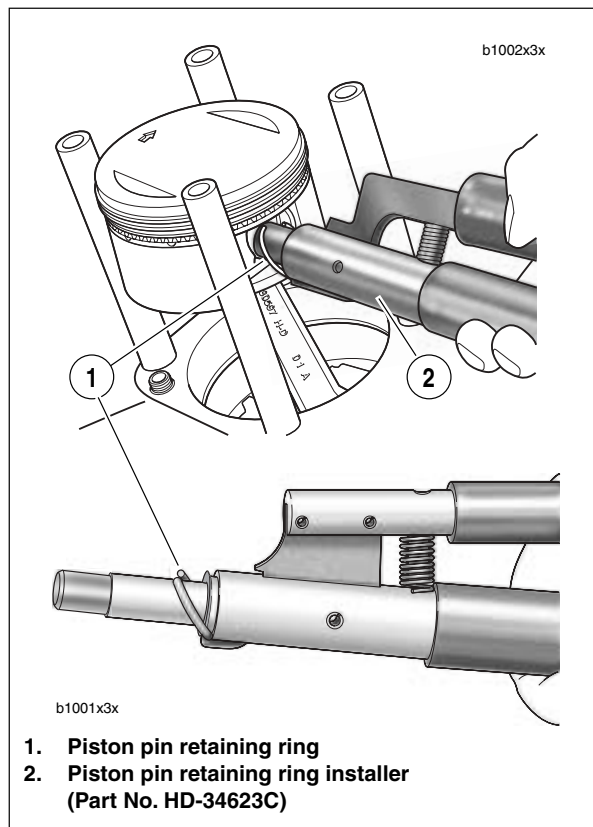

Figure 3-102. Installing Piston Pin Circlip
4. See Figure 3-102. Install **new** piston pin retaining rings (1) using PISTON PIN RETAINING RING INSTALLER (2) (Part No. HD-34623C). Place **new** retaining ring on tool with gap pointing up.